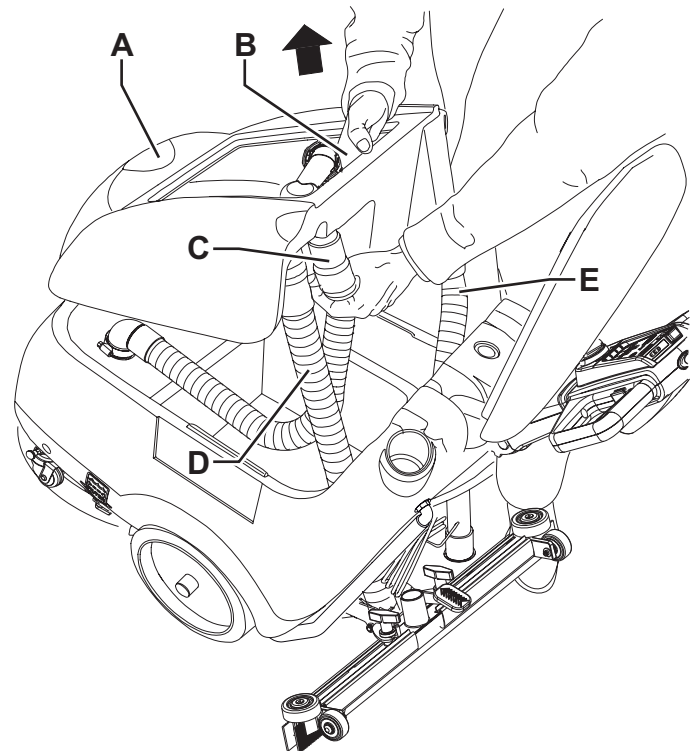

Figure 6
1. Check that the knob (62) is turned to "0".
2. Empty the recovery tank (30) as shown in the relevant paragraph.
4. Disconnect the vacuum hose (22) from the squeegee (11).
5. Disconnect the recovery water drain hose (16) from the bracket (17).
6. Open the cover (6).
7. Grasp the recovery tank (A, Fig. 6) in the area (B) and slightly lift it.
8. Disconnect the vacuum hose (C) from the tank, then remove the tank (A) with the hoses (D) and (E).